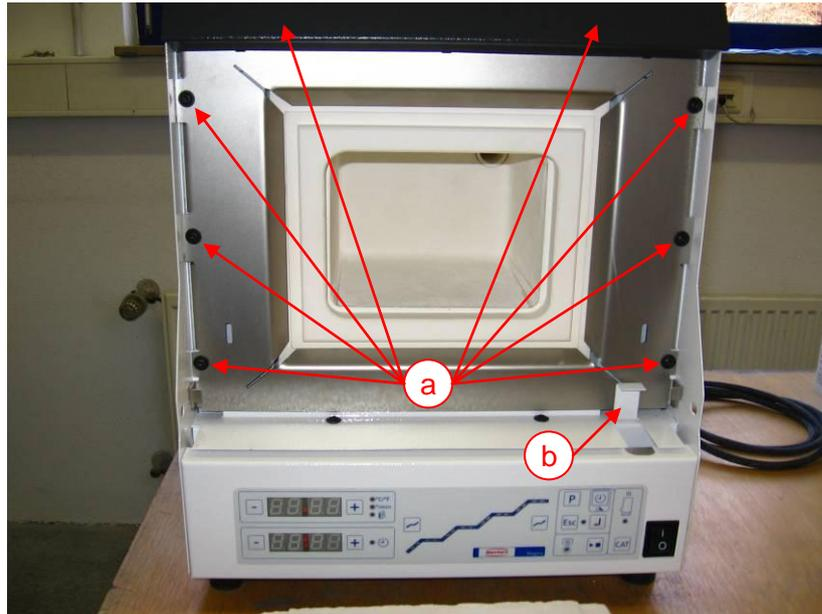

Fig. 14 – front panel and rim stone
- Remove the 8 screw (Fig. 14 a) from front panel and pull the front panel carefully to the front.
Take care that the panel is placed behind the white metal (Fig 14 b).